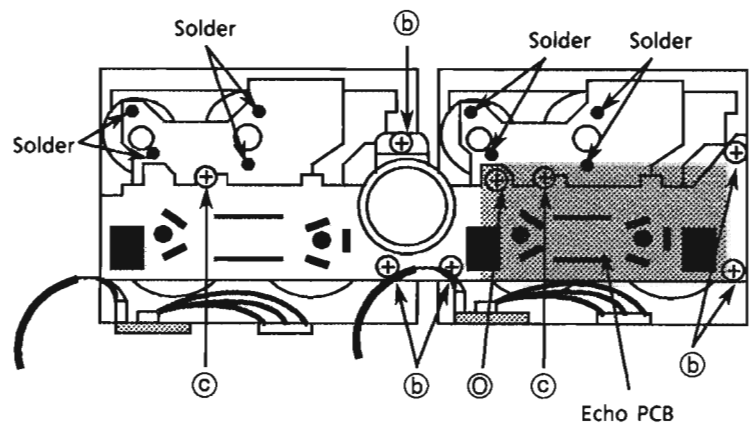

Fig 14
3. Remove the screw ① to remove the echo PCB (Fig 14).
4. Remove the 7 screws ②,③ fixing the bracket (Fig 14).
3. Remove the 7 screws ②,③ fixing the bracket (Fig 14).
5. Remove the 4 screws ④ fixing the reel and cam motor.
3. Remove the 7 screws (b), (c) and the bracket (Fig 14).